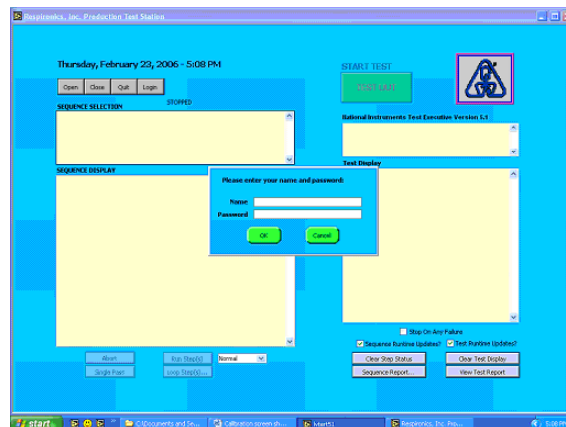

Figure 7-5: MFTS Name and Password
1. Click the green Test UUT box on the PC screen. Refer to Figure 7-5.